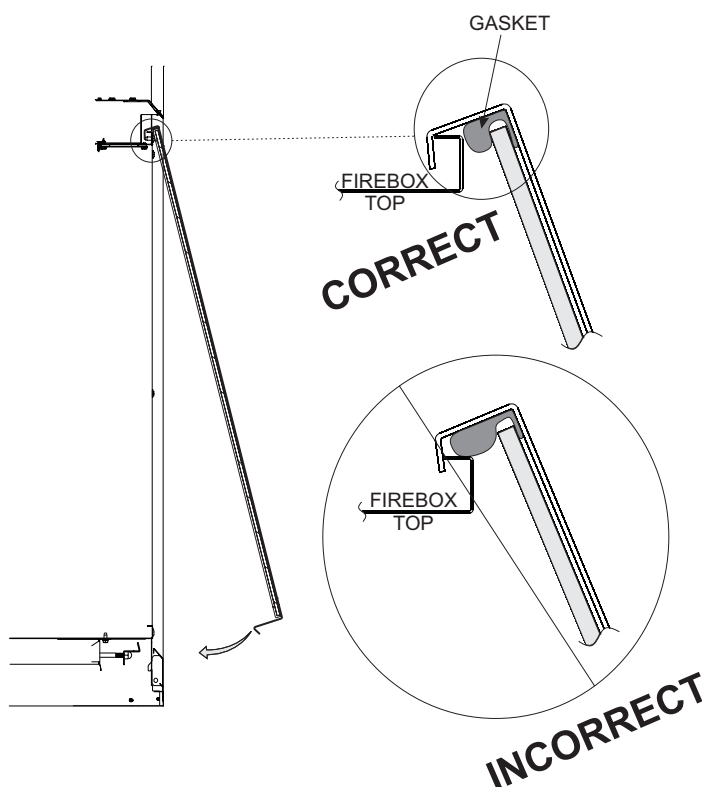

Figure 71
1. When installing the Glass Door assembly, make sure that the door top flange is hooked over the firebox top flange as illustrated in the "Correct" view in Figure 71.
Important: Do not allow the gasket across the top of the door to roll up on top of the firebox flange as shown in "Incorrect" view in Figure 71.